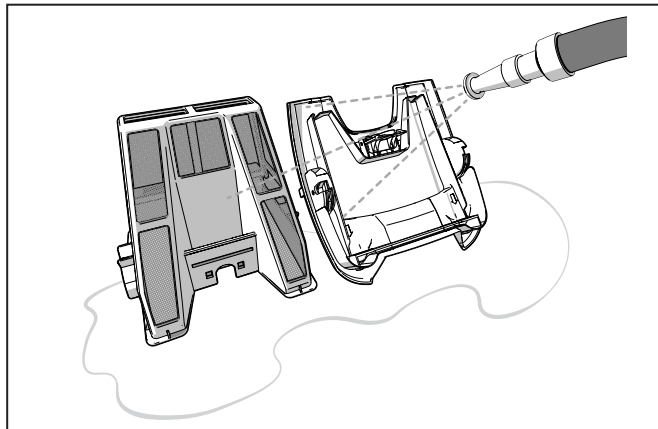

Figure 13. Rinse the Filter Canister
5. Using a hose with clean water, rinse the filter canister and lid to remove all debris (Figure 13).